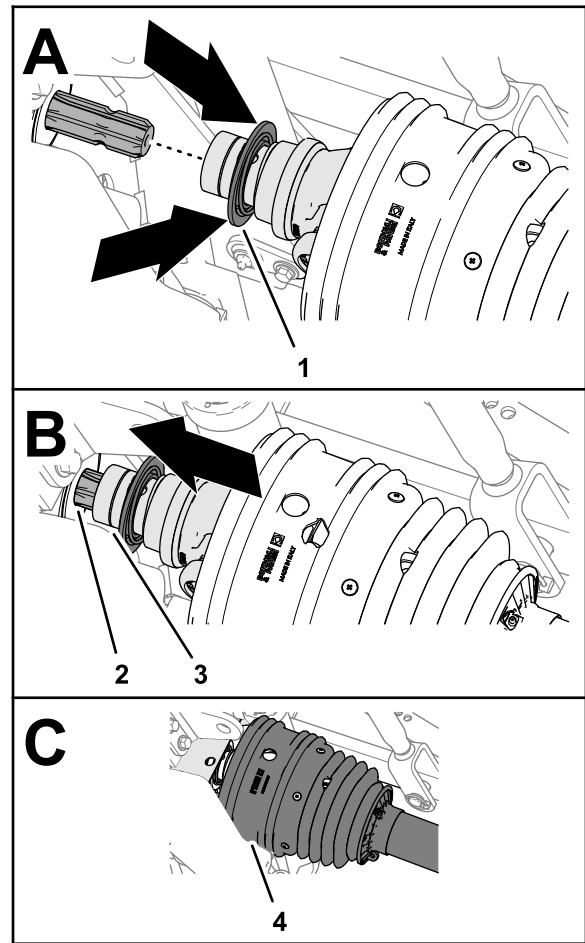

Figure 31
2. Pull back the lock collar of the quick-connect coupling (Figure 31).
3. While pulling back the lock collar, pull the PTO driveshaft yoke forward and slip the socket of the coupling over the splines of the PTO output shaft (Figure 31).
5. Ensure that the shield is positioned over the driveshaft yoke (Figure 31).